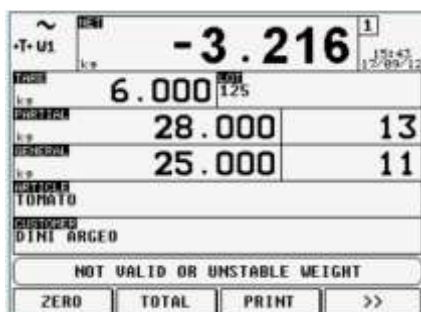

Figure 9. Totalisation failure (unloading mode)
5. On totalisation failure the system message "NOT VALID OR UNSTABLE WEIGHT" appears, as in Figure 9